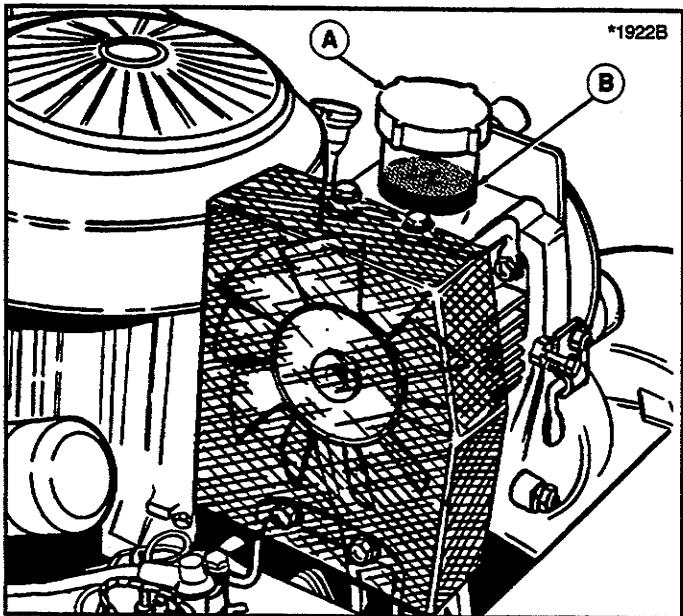

Figure 26. Hydrostatic Reservoir
2. The fluid level is visible in the reservoir (B, figure 26) without removing the cap. The level should be at FULL COLD mark. If not, go to step 3.